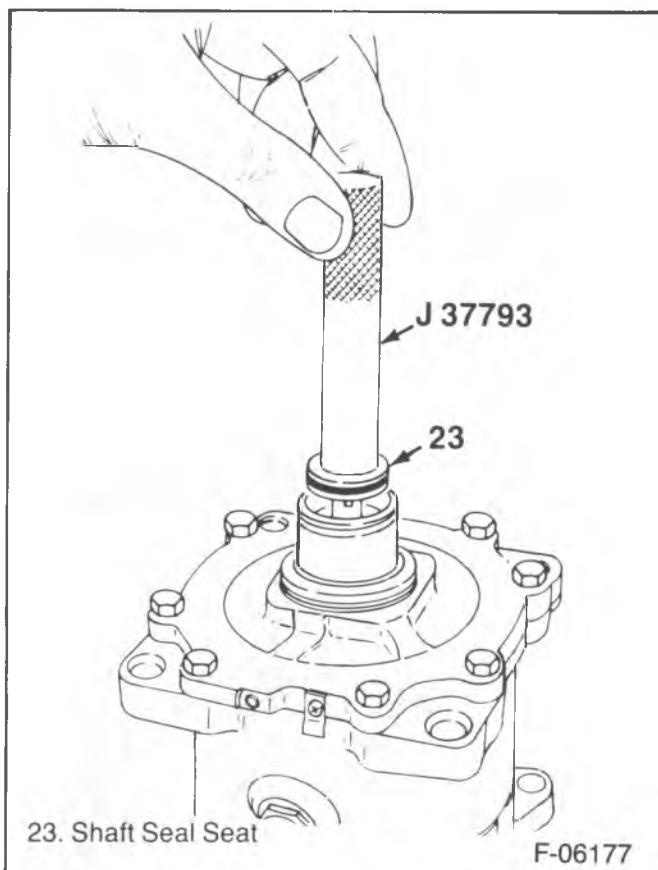

Figure 11—Removing the Shaft Seal Seat
- 5. Shaft seal seat (23) with J 37793 (figure 11).
- 7. Clutch spacer shims (3).
4. Shaft seal seat (23) with J 37793 (figure 11).